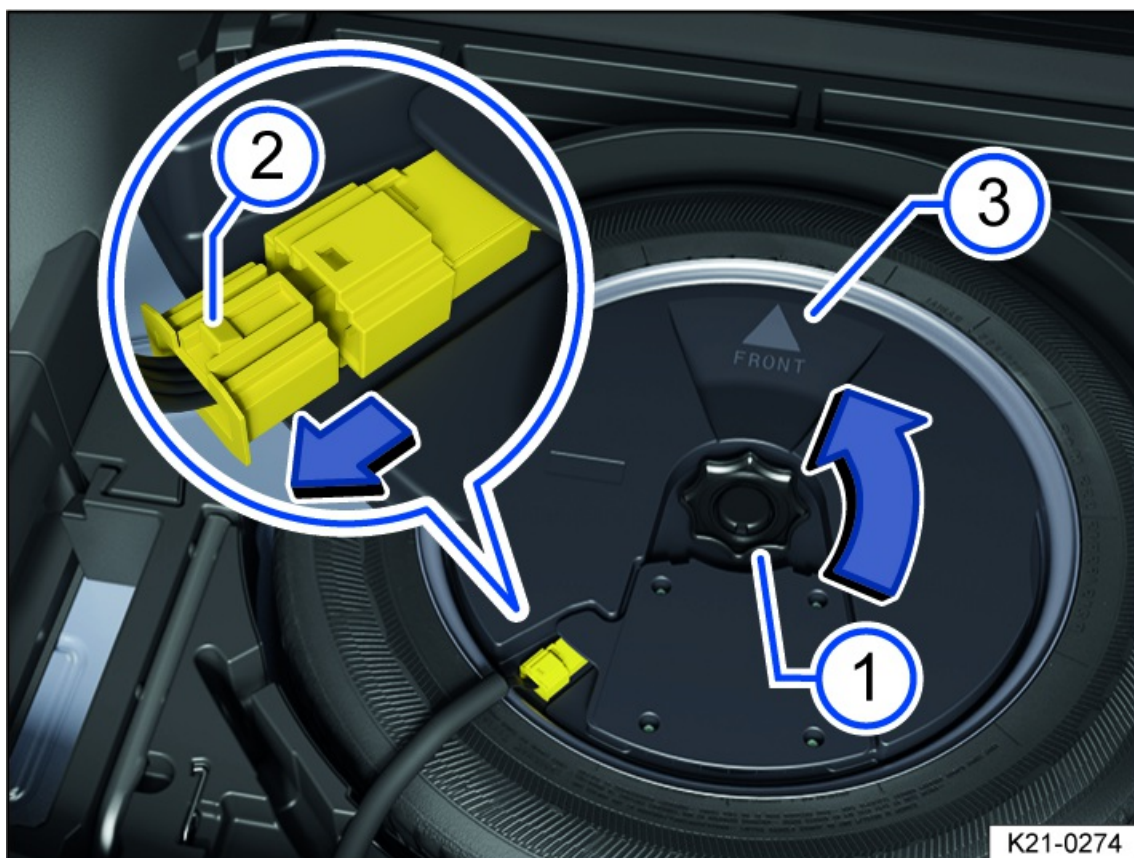

Fig. 175 Under the luggage compartment floor: remove subwoofer.
3. Unscrew the handwheel *fig. 175* in the direction of the arrow.
4. To release the connector, press the locking mechanism on the end of the connector *fig. 175*.
1. Place the subwoofer carefully in the rim well. The point of the “FRONT” *fig. 175* arrow symbol on the subwoofer must face forward.
2. Connect the connector until the lock *fig. 175* latches into place.
3. Turn the handwheel *fig. 175* on the threaded pin in the opposite direction to the arrow until the subwoofer is securely fastened.